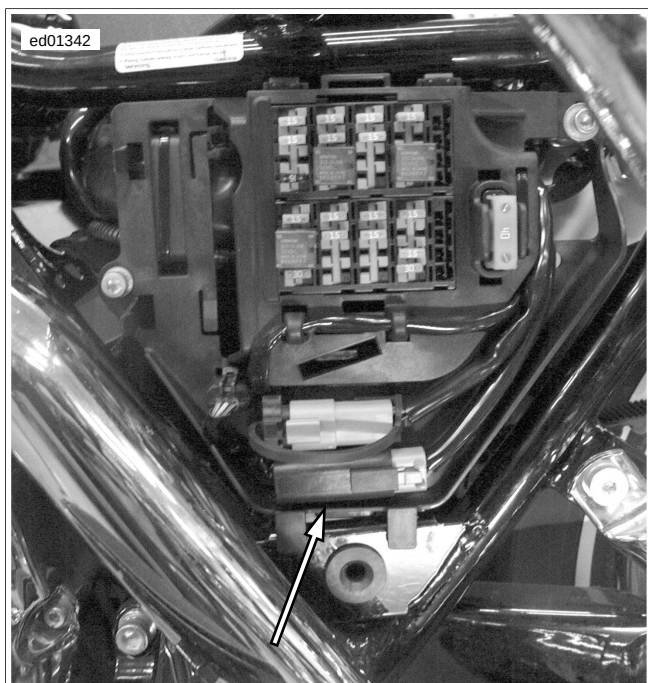

Figure 6-4. ABS Diode Pack
- See Figure 6-4. ABS Diode Pack.